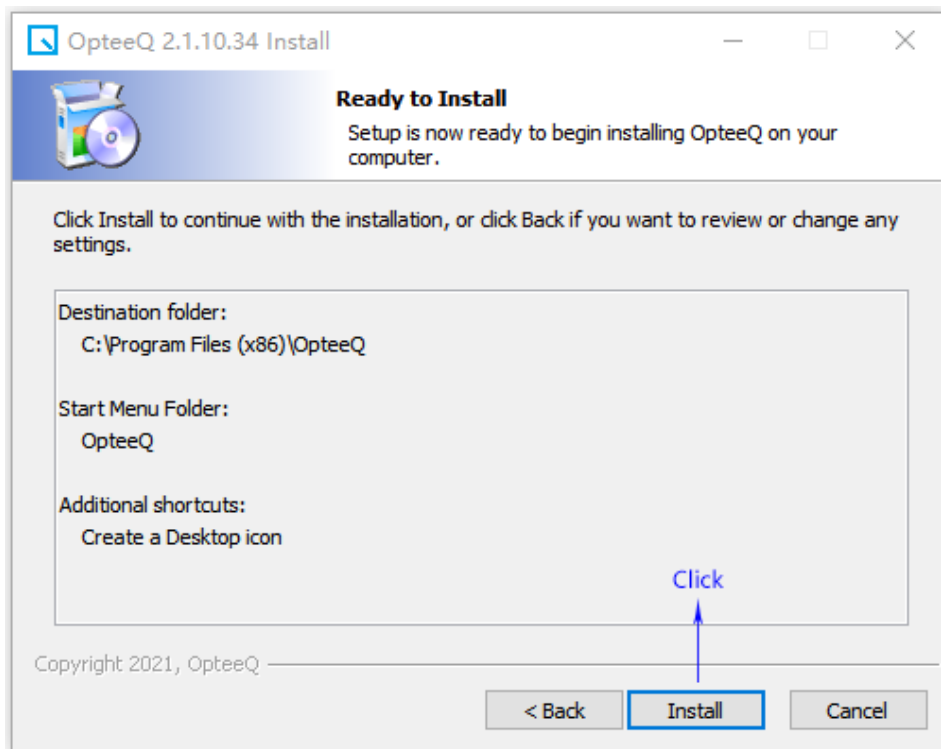

Figure 1.8: Step 8
Step 8: Click "Set up" in the pop-up interface, as shown in Figure 1.8.